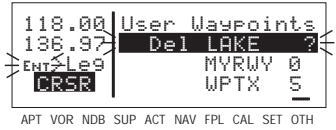
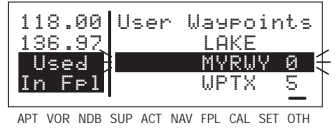

Figure 4-201
Figure 4-202
2. Press **[CLR]**. The KLX 135 will ask if you wish to delete that user-waypoint (figure 4-201). If the waypoint is active or used in a flight plan, the deletion will not be allowed and you will receive a scratchpad message telling you this (figure 4-202).